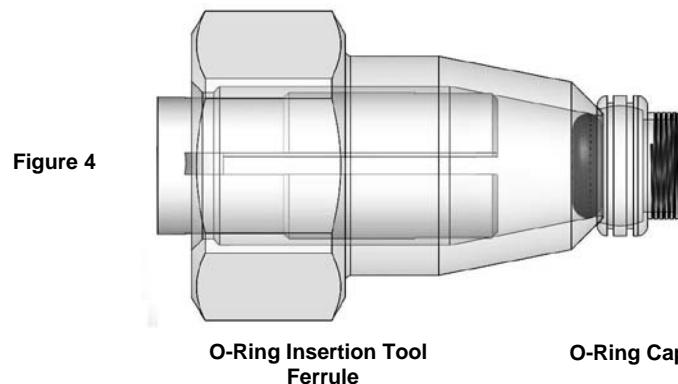

Figure 4
3. The O-Ring is now ready to be inserted into the Cap in the denture. Place the tip of the O-Ring Insertion Tool into the O-Ring Cap located in denture (Figure 4).